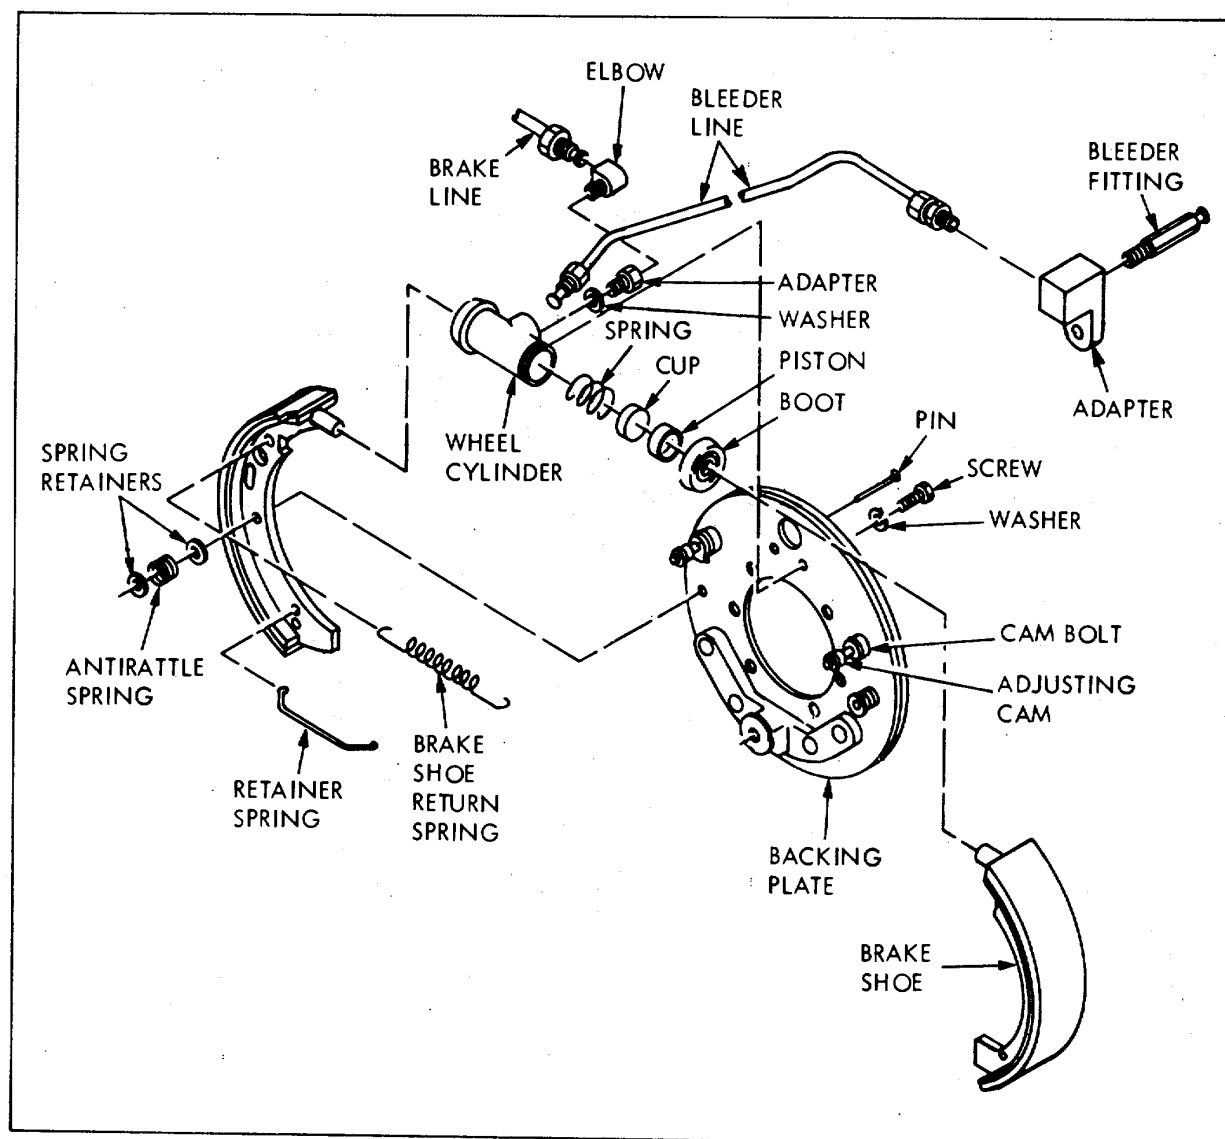

Figure 6-9. Wheel Brake Assembly, Exploded View
(1) Disassemble front axle (paragraph 6-14) to the extent required to gain access to the wheel brake (Figure 6-9).
(2) Remove brakeshoe return spring and retainer spring, using special brake service tools designed for this, if available.